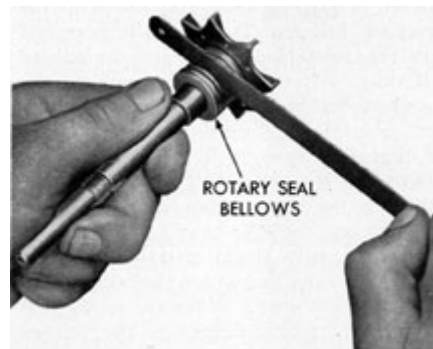

Figure 5-10. Stretching rotary seal bellows.
**5D9. Adjusting-the rotary seal bellows.** (See Figure 5-10.) If the bellows are found to be too short, as described in Section 5D8, they may be stretched as follows: Place a thin strip of metal, such as the smooth edge of a hacksaw blade, between the folds of the rotary seal bellows. Turn the bellows around so that the metal blade will stretch the bellows uniformly. After each turn, measure the distance between the impeller hub to the bellows face. Repeat the spreading operation until the dimension between the impeller hub and bellows face is exactly  $13/32$ -inch. When the bellows is too long, as described in Section 5D8, compress the bellows by hand (while installed on impeller